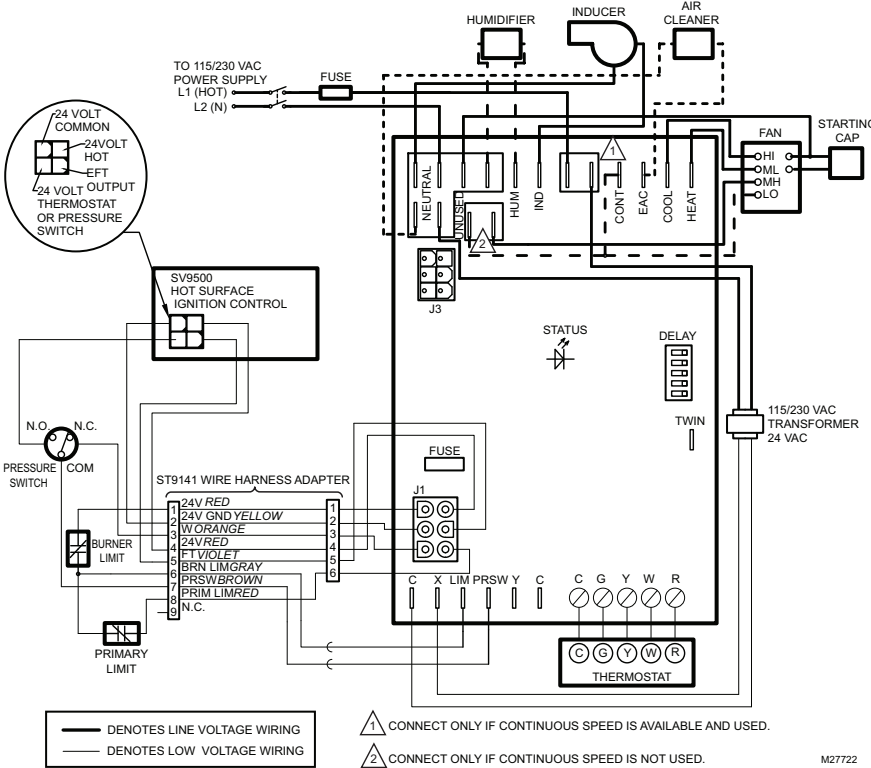

Fig. 4. Typical ST9120U,B wiring connections in ST9141 system with SV9500/SV9501 SmartValve™ Control.
7. Check proper connection using Fig. 4.